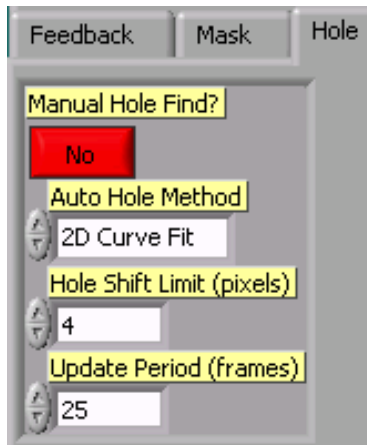

Figure 12 - Hole tab window
- 2) Selects the **Hole** menu and turn on **Yes** the **“Manual Hole find”** option (Figure 12). From the Hole menu the operator can choose the **“Auto Hole Mode” (2D Curve Method or Centroid** algorithm depending on the situation.
- 5) Selects the **Hole** menu and turn on **No** the **“Manual Hole find”** option (Figure 12).